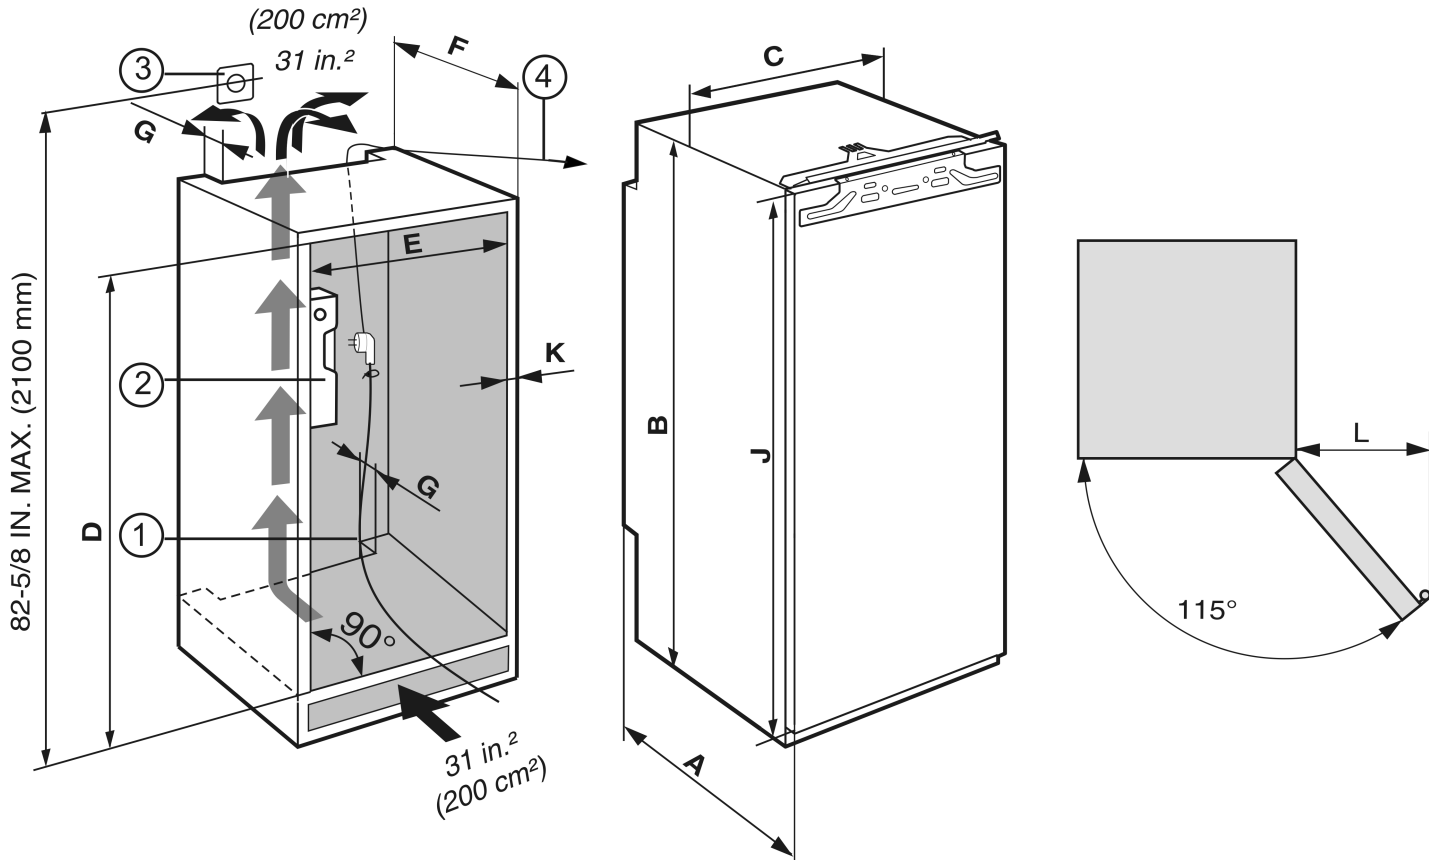

Fig. 4
- ▶ Build the cabinet with the dimensions shown in Fig. 4.
- ▶ Align the cabinet with a spirit level Fig. 4 (2) and a try square. If necessary, level the cabinet up by placing something underneath.
- ▶ Maintain the fitting dimensions shown in Fig. 4.
- Check the fitting dimensions according to the specifications in Fig. 4.